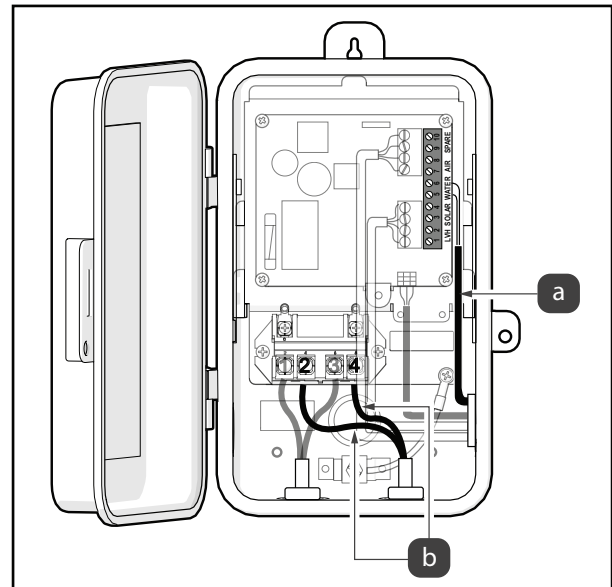

Figure 13. Connect Load Input Cables
6. Install Low Voltage Wires. Install the wires for the temperature sensor connections through the side knockout, see Figure 13 (a).
14. Connect one "Load" input to Terminal 2 and the other to Terminal 4, see Figure 13 (b).